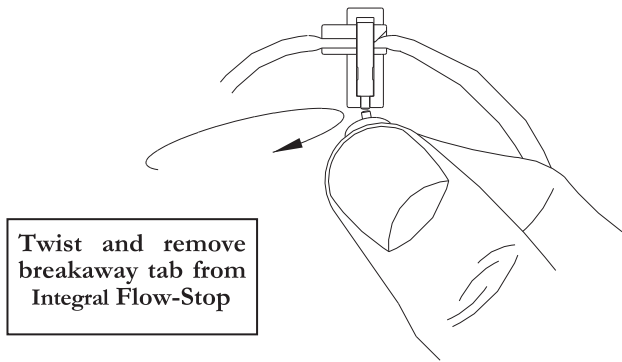

Figure 1.5 Moog Curlin Infusion Administration set Integral Flow-Stop with breakaway tab
1. To gravity prime the administration set, twist and remove the breakaway tab from the Integral Flow-Stop, then spike the IV bag. Squeeze the Integral Flow-Stop between your thumb and forefinger to allow fluid to flow through the tubing until all air is removed from the IV bag and administration set (See figures 1.5 and 1.6). Release the Integral Flow-Stop to automatically clamp the tubing. **To correctly prime a filtered set, hold the filter in a vertical position with the flow downwards allowing the filter to completely fill with fluid.**